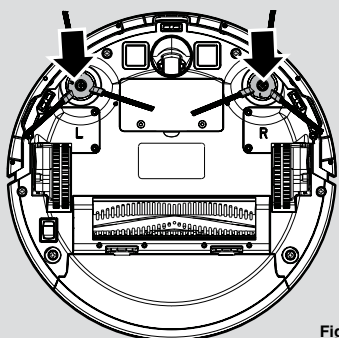

Fig. 3
6. Press the two rotary brushes labelled L and R onto the brackets until they click into place. Pay attention to the designation L and R on the device as well as the brushes. **[Fig. 3]**